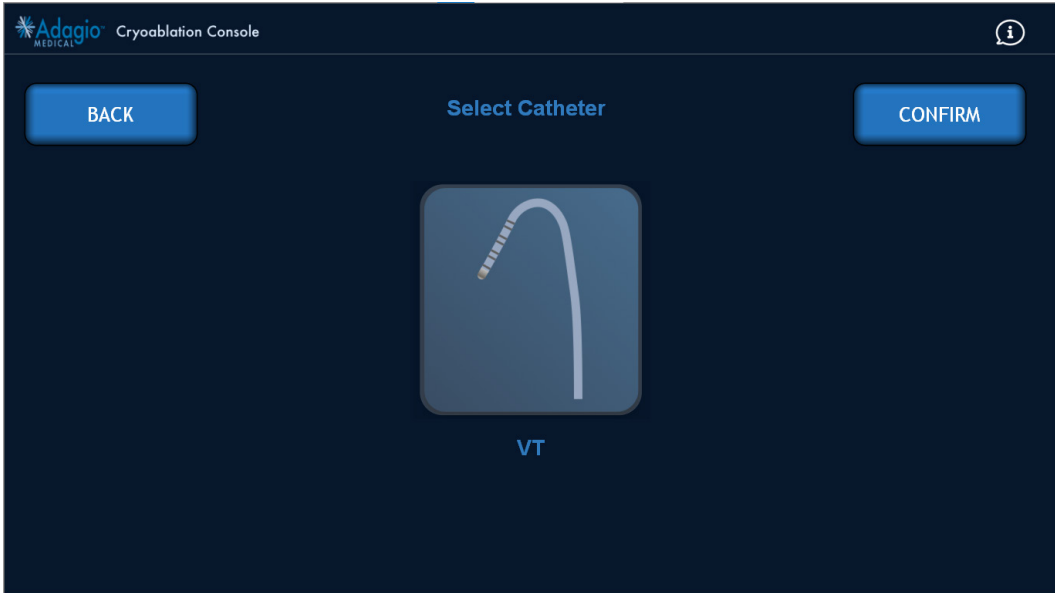

Figure 83 – Catheter Selection Screen Image
- 3. Select the Catheter for use in the procedure as shown in Figure 83.